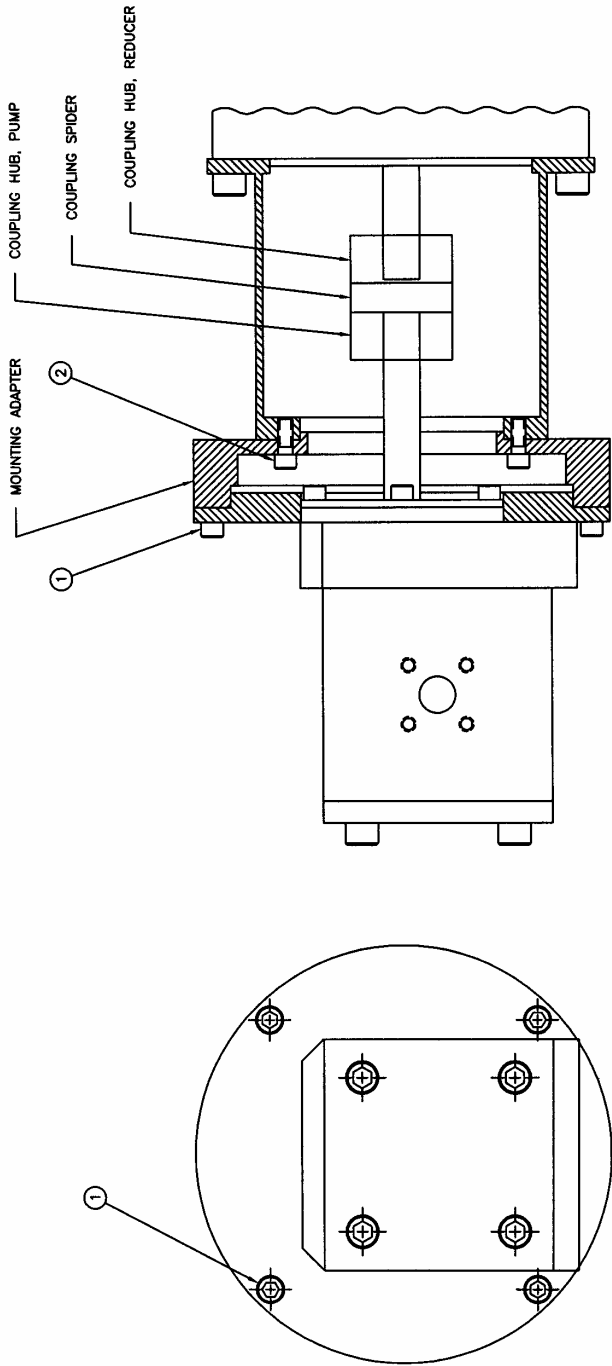

FIGURE 1
Figures 1 and 2 on pages 8 and 9 show how the pumps are mounted to the reducer. The two pumps may be interchanged so that a wider flow rate range can be obtained from the pump cart.
Figure 1 shows a Model NPC-15 pump mounted to the reducer. To remove a Model NPC-15 pump from the reducer:
To install a Model NPC-15 pump to the reducer, refer to Figure 1 and do the following:
position of the coupling hub so that the end of the drive shaft is flush with the inner edge of the hub as shown in Figure 1. Tighten the set screw on to the drive shaft key.
1. Install the coupling hub on to the pump shaft. Both the drive shaft key and the coupling hub are slip fits. If they do not fit together without force, check for nicks and burrs and remove as required. Adjust the position of the coupling hub so that the end of the drive shaft is flush with the inner edge of the hub as shown in Figure 1. Tighten the set screw on to the drive shaft key.